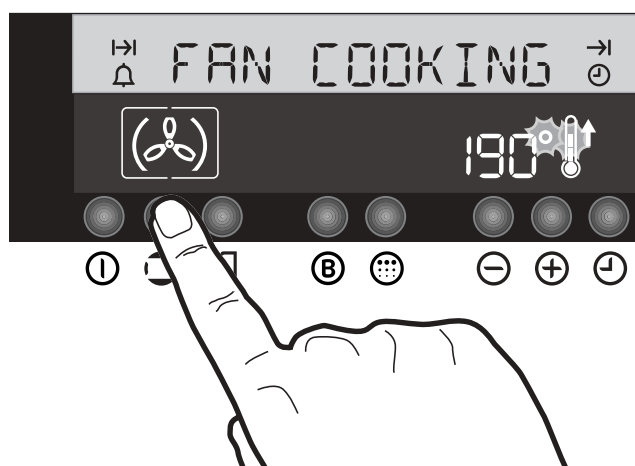

Fig. 19
5. If you press the "Cooking Function" button ②, the temperature display reverts to the selected temperature and symbol "●" flashes for 5 seconds (Fig. 19). During this interval, you can adjust the temperature setting by pressing button ④ or ⑤.